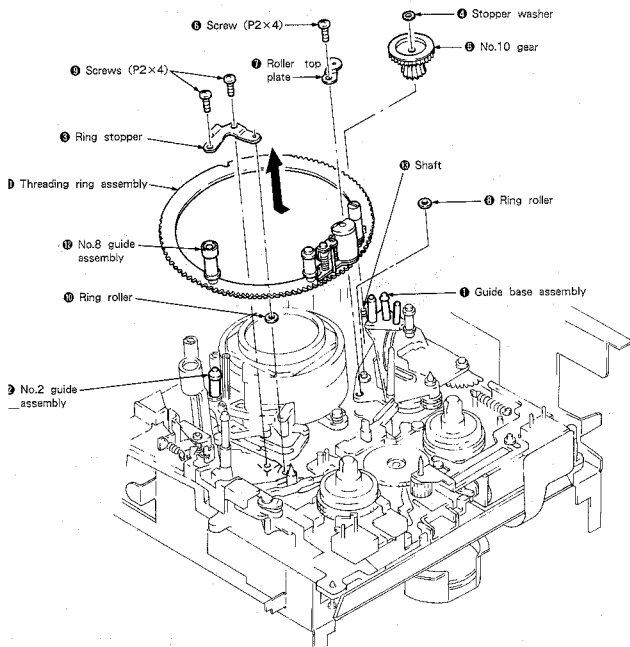

Fig. 7-12.
Removal (See Fig. 7-12.)
2. Mounting (See Fig. 7-12.)
-) Remove the threading ring assembly according to 7-3-7. 1. Removal. (See Fig. 7-12.)
- 6) Mount the threading ring assembly according to 7-3-7, 2. Mounting. (See Figs. 7-12, and 7-13.)
- > Remove the threading ring assembly according to 7-3-7. 1. Removal. (See Fig. 7-12.)
- > Remove screw ① and E ring ②.
- > Remove the slant guide block assembly ③.
- > Mount the threading ring assembly according to 7-3-7. 2. Mounting. (See Figs. 7-12. and 7-13.)